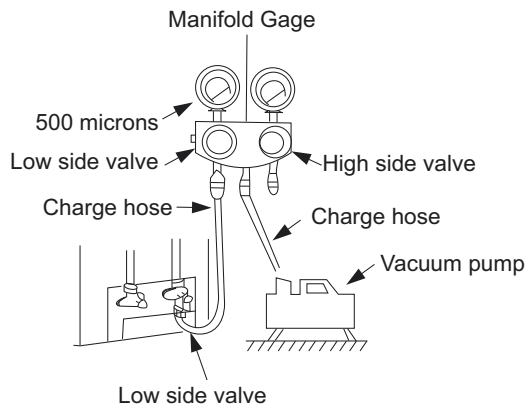

Fig. 15 – Manifold
3. Fully open the low side of manifold gage. (See Fig. 15)